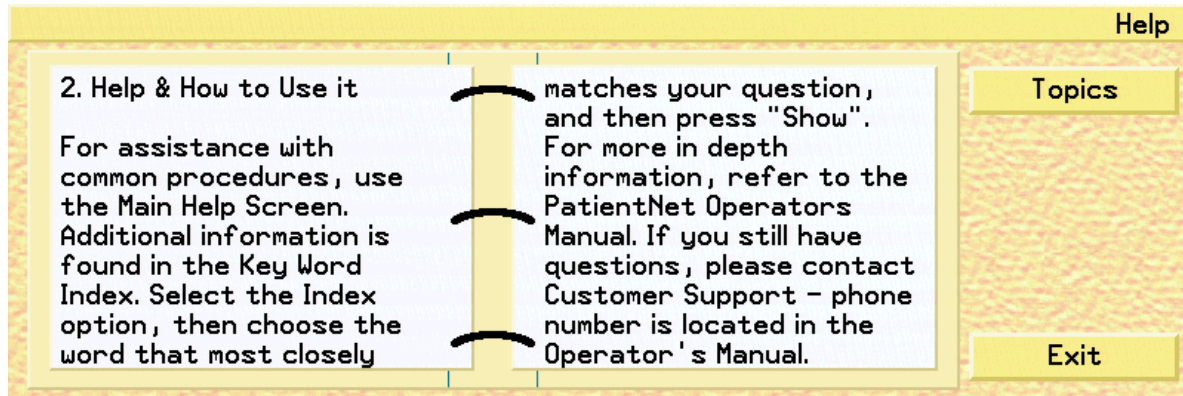

Fig. 3. Using the On-line Help Function
4. Click the **Topics** button again to return to the Help Topics Screen. Select the **Help and How to Use It** topic (fig. 3) to view details on using the On-line Help function.